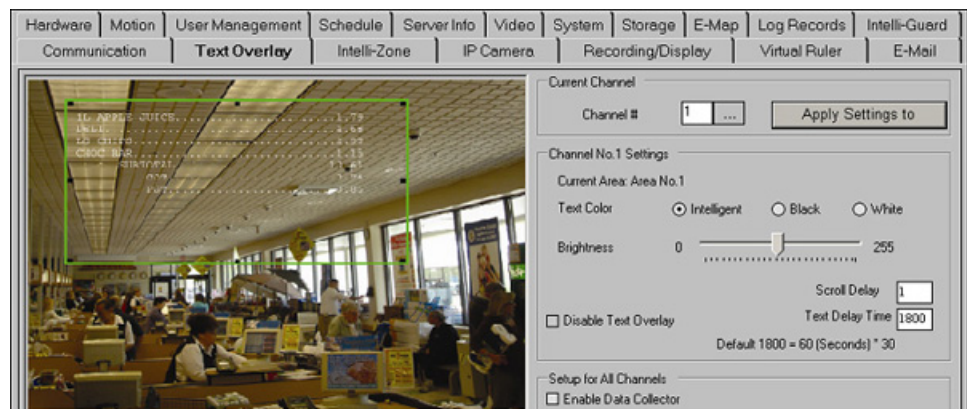

Figure 98 – Text Overlay Setup Window
3. The screen below in Figure 98 should appear